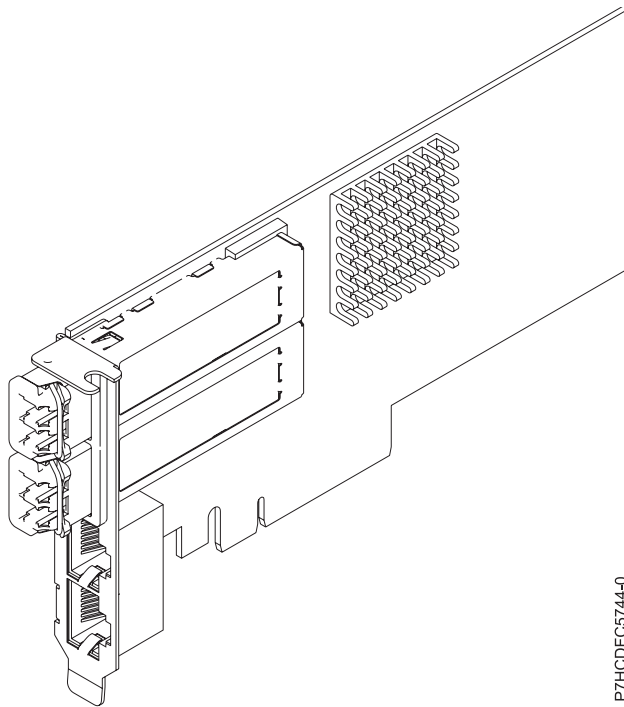

Figure 40. PCIe2 LP 2x10GbE SR 2x1GbE UTP adapter
The PCIe2 LP 2x10GbE SR 2x1GbE UTP adapter is a PCI Express generation-2, four-port Ethernet unified wire adapter with a PCI Express 2.0 host bus interface. The adapter is optimized for cloud computing, virtualization, storage, and other data center applications. The adapter provides two 10 Gb Ethernet ports and two 1 Gb Ethernet ports. The two 10 Gb small form-factor pluggable (SFP+) single root (SR) transceiver ports are used for connectivity with other servers or switches in the network. Each SFP+ (SR) port provides Ethernet connectivity with a nominal data rate of 10 Gbps (gigabits per second), and uses the SFP+ copper twinaxial cables up to 5 m (16.4 ft) in length. Each of the RJ45 ports provides Ethernet connectivity at a data rate of 1 Gbps. The link aggregation and failover features of the adapter are ideal for critical network applications that require redundancy and high availability. Figure 40 shows the FC 5745 adapter.